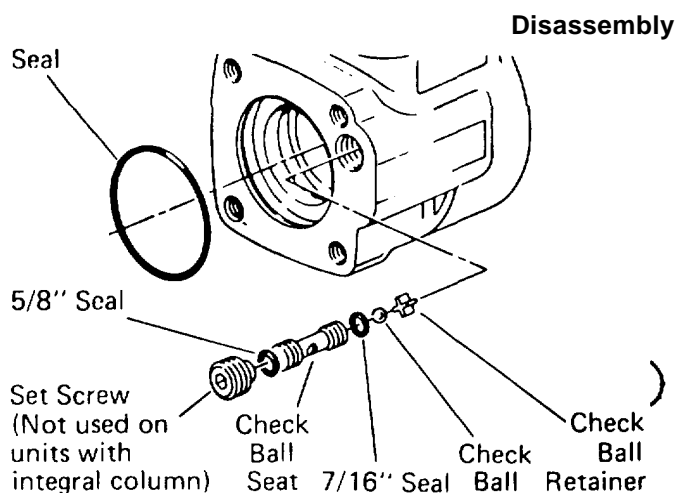

Figure 11
20. Remove seal from housing, see Fig. 11.
21. Remove set screw (not used on units with integral column) from housing, see Fig. 11.